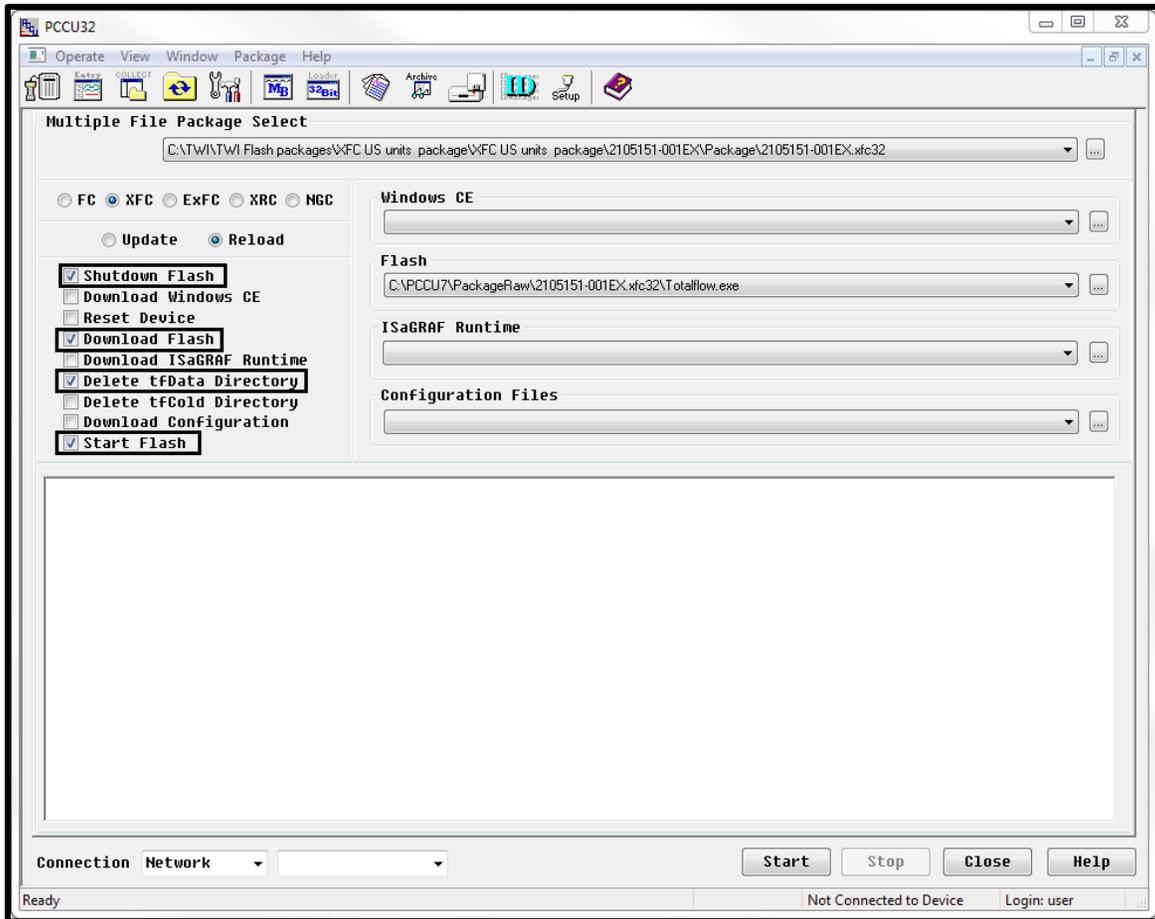

Figure 8: 32 Bit XSeries Loader screen
- Use PCCU “32 Bit X-Series Loader” (Figure 8) to upgrade flash to one that has the phase 1 liquid tube applications and cold start the device.